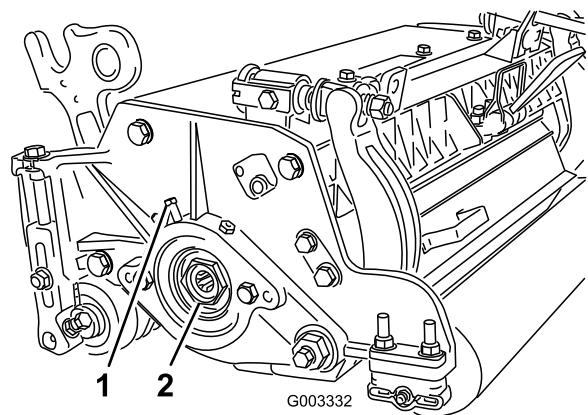

Figure 31
- A. Loosen external set screw securing bearing adjusting nut to bearing housing located on the left side of the cutting unit (Figure 31).